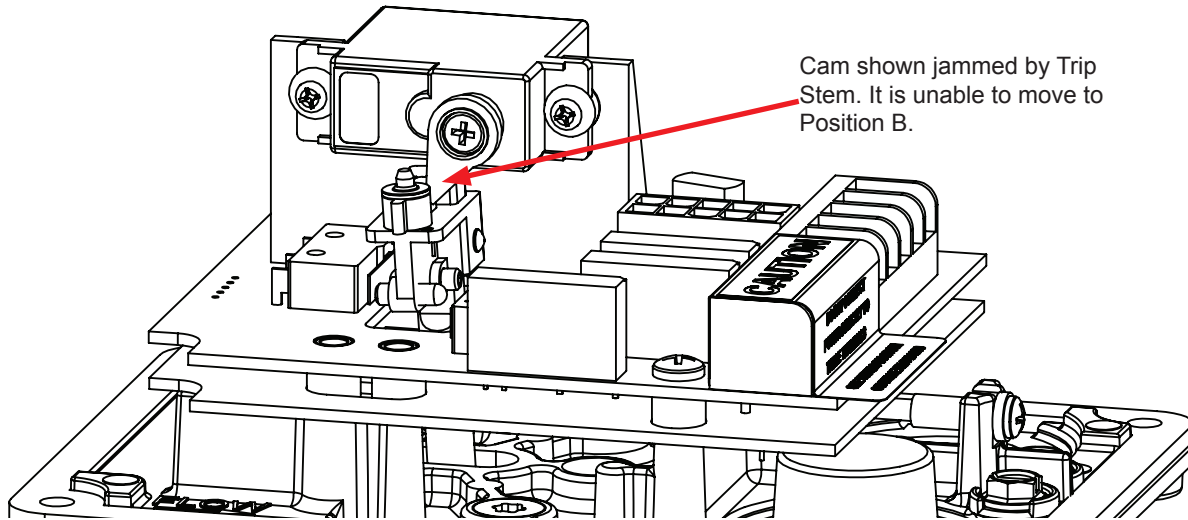

Figure 4
2. Using a 1.3 mm hex screwdriver, loosen the trip stem set screw a  $\frac{1}{4}$  turn in the counter clockwise direction. (See Fig. 4)